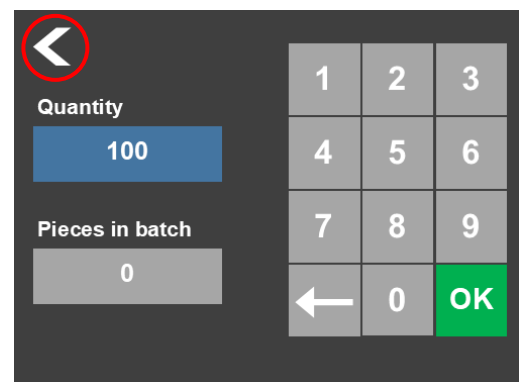

Figure 8.4.2
- Enter the quantity and confirm with the OK button. See Figure 8.4.2.